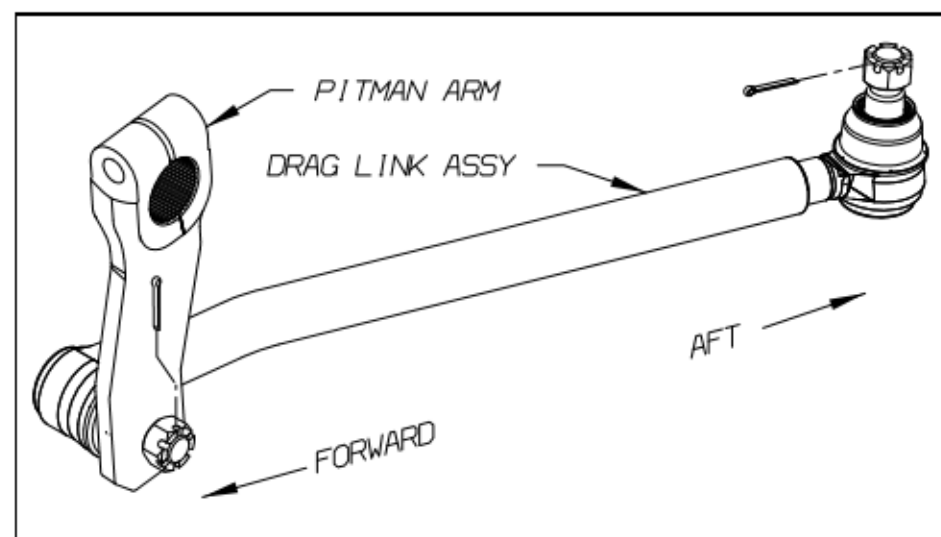

Fig. 1
2. Remove cotter pin from ball stud on forward (pitman arm) end of drag link. (Fig. 1)
4. Remove cotter pin from ball stud on aft (steer arm) end of drag link. (Fig. 1)